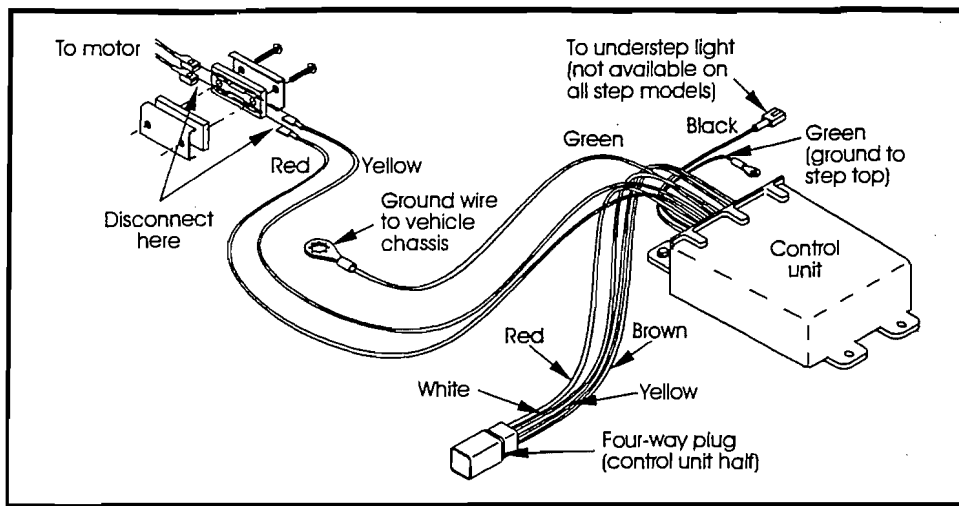

Figure 6
To further determine that the control is not shutting off, remove the 2 screws from the connector on the step motor leads between the step motor and the control unit. Remove the seal assembly. (See Figure 6 in the Step Test Procedure). Place a voltmeter between the red and yellow motor leads than reconnect the four-way plug. Turn the power switch on. If any voltage registers on the meter, the control is not shutting off and may be defective. When doing this test, switch the voltmeter leads back and forth between the red and yellow motor leads to be sure no voltage registers. If any voltage does register, disconnect the four-way plug to keep the motor from overheating. If zero voltage is present, the control has shut off and is normal.
12. Steps equipped with the permanent magnet motor require disconnecting the motor leads from the control unit before applying power to the motor leads (see Figure 6). To disconnect the motor leads, disassemble the motor lead wire connector seal.